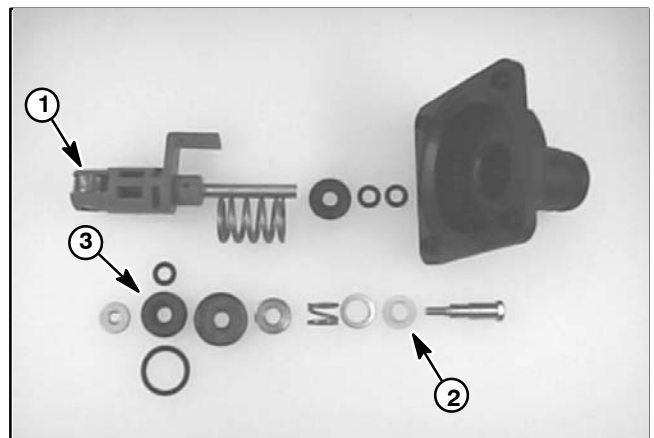

Figure 28
A. Remove the fork (item 29) that secures the motor and spindle sections to the manifold assembly.
3. To allow easier separation of the motor and spindle sections, make sure that valve motor is in the closed position (green indicator is recessed into the spindle housing). Remove four phillips head screws (item 15) and separate spindle section from motor section.
5. Inspect and disassemble spindle section (Fig. 28).